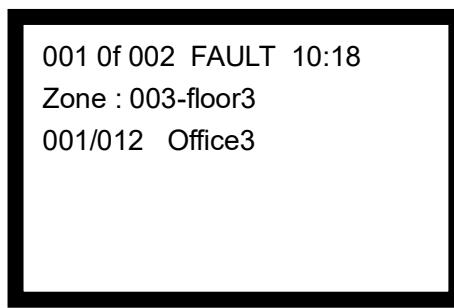
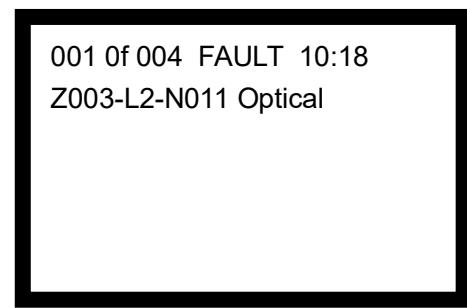

Fig. 5-5
Fig. 5-6
- The LCD displays the fault message. The fault screen is as in Fig. 5-5 in zone display mode, and as in Fig. 5-6 in loop display mode.
In Fig. 5-5:
In Fig. 5-6: